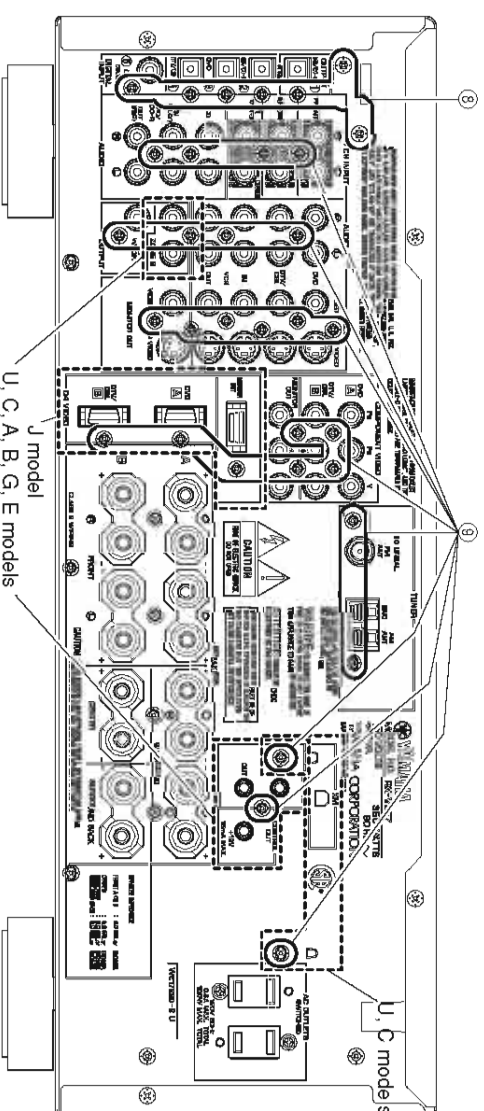

Fig. 3
- Remove 7 screws (⑧). (Fig. 3)
- ⑧のネジ7本を外します。(Fig. 3)
- Remove 23 (U, C models) / 21 (A, B, G, E models) / 19 (R, T, K, L models) screws (⑨). (Fig. 3)